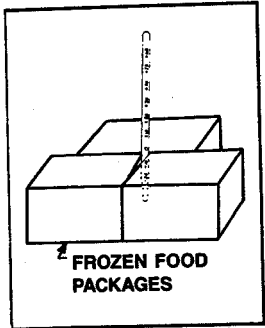

FIGURE 38
**FREEZER:** Place the thermometer in the center of the freezer, surrounded by frozen packages. See Figure 38. Wait 5 to 8 hours, then check the reading. If temperature is not within 0° to + 2°F, adjust control as needed, one number at a time and check the temperature again after 4 to 6 hours.